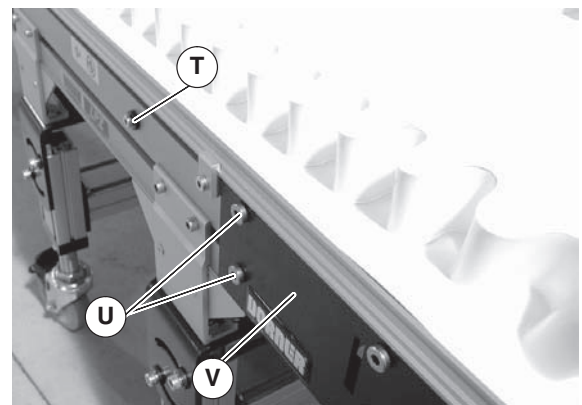
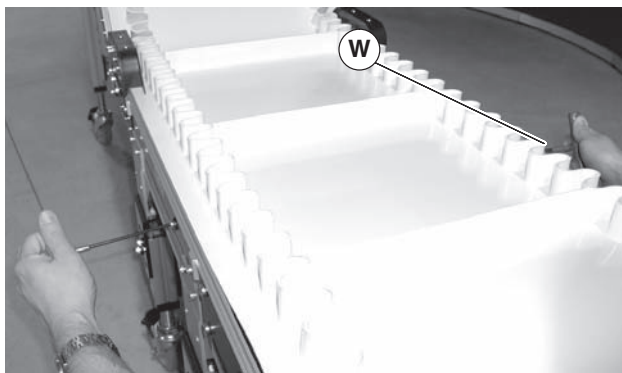

Figure 37
Figure 38
1. On tension end of the conveyor, identified by the pinion locking screw (Figure 37, item T), loosen the two tail clamp bolts (U), on both sides of conveyor.
2. With 5mm hex wrench, hold pinion torque screw (Figure 38, item W). Loosen the pinion locking screw (Figure 37, item T) and turn the pinion torque screw (W) to extend head plate assembly.
- After adjusting proper tensioning, tighten the pinion locking screw (Figure 37, item T) to 69 in-lbs (7.8 N-m), and tighten tail clamp bolts (Figure 37, item U) on both sides of conveyor to 146 in-lb (16.5 N-m).
1. Ensure tensioning racks are extended and touching the idler pulley headplates: loosen the pinion locking screw (Figure 37, item T) and rotate the pinion torque screw (Figure 38, item W) clockwise until contact with the head plate is made, then tighten the pinion locking screw (T) to 69 in-lbs (7.8 N-m)